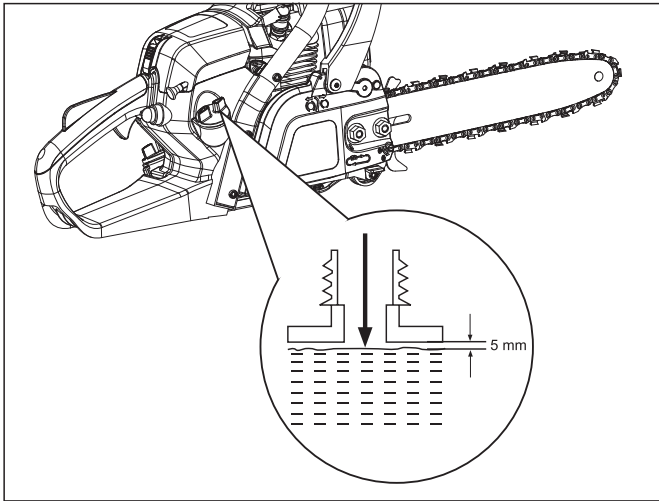

Fig. 5
2. Refill with unleaded fuel (10% Ethanol or less) carefully without overfilling. Leave approx. 0.20in.(5 mm) space between the top of the fuel and the inside edge of the tank to allow for expansion(Fig.5).